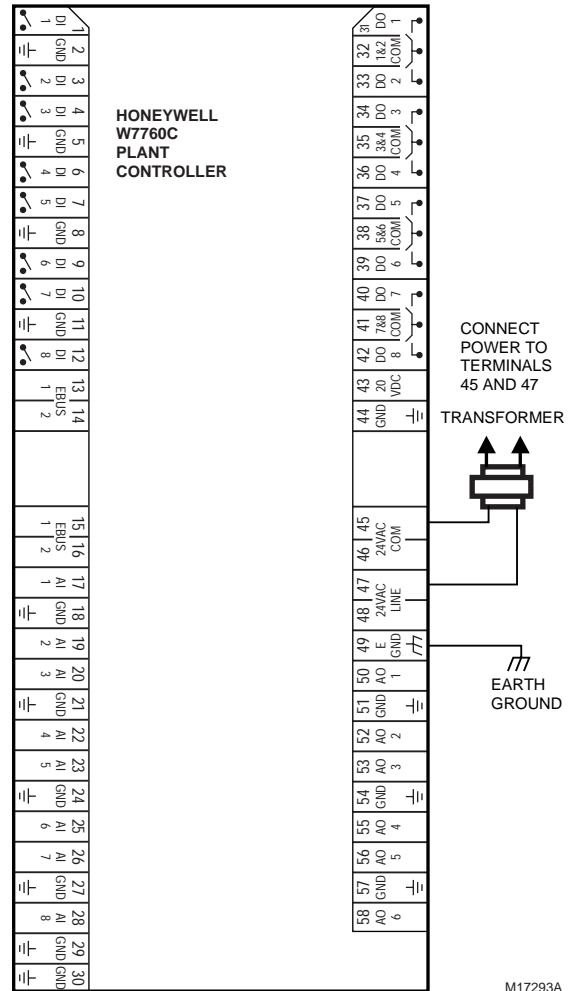
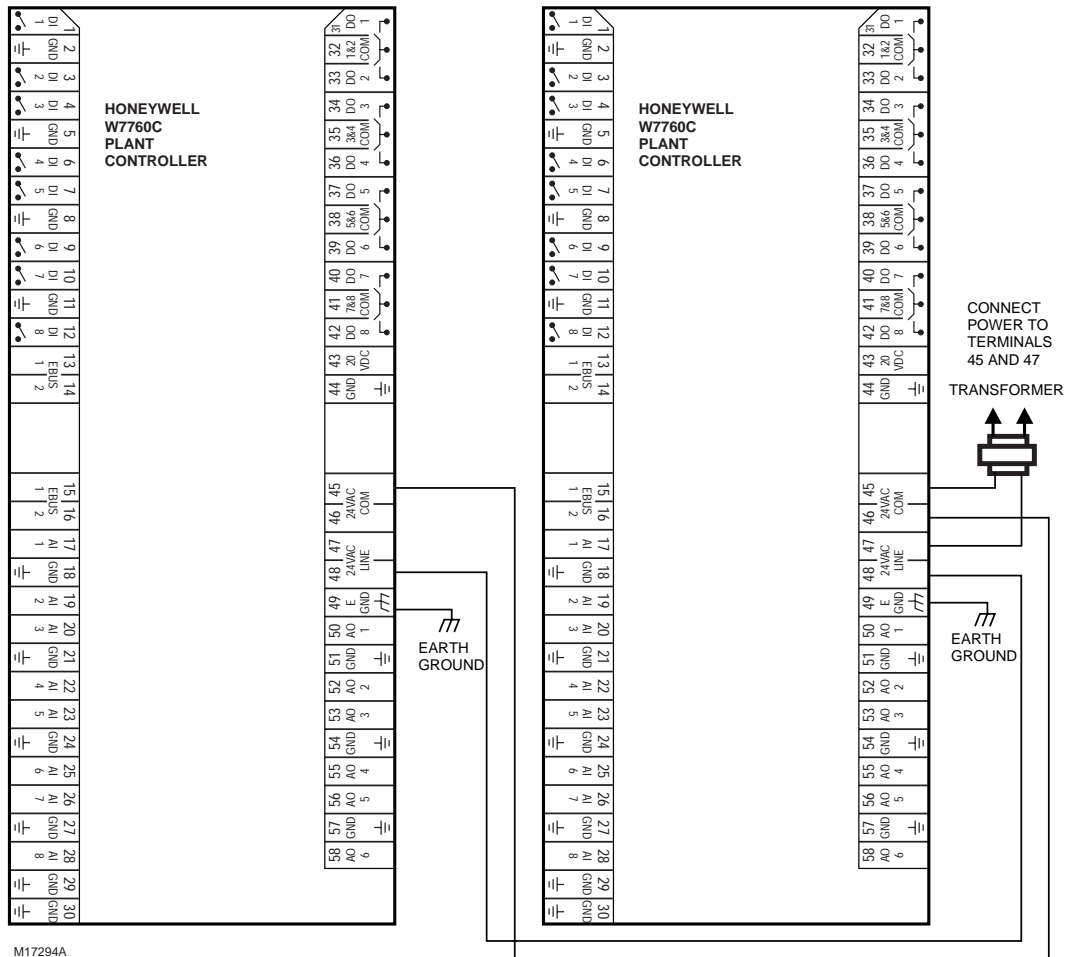

Fig. 42. Power wiring details for one W7760C per transformer.
Fig. 43. Power wiring details for two W7760Cs per transformer.
Each W7760C requires 24 Vac power from an energy-limited Class II Power Source. To conform to Class II restrictions (U.S. only), transformers must not be larger than 100 VA. A single transformer can power more than one W7760C Controller. Fig. 42 shows power wiring details for a single device and Fig. 43 shows multiple devices using one transformer.
- For multiple controllers operating from a single transformer, the same side of the transformer secondary must be connected to the same power input terminal in each device. The earth ground terminal (W7760C Terminal 49) must be connected to a verified earth ground for each controller in the group. See Fig. 42 and 43. Controller configurations are not necessarily limited to two devices, but the total power draw including accessories cannot exceed 100 VA when powered by the same transformer (U.S. only).
- Keep the earth ground connection (W7760C Terminal 49) wire run as short as possible. Refer to Fig. 42 and 43.
- Do *not* connect earth ground to the W7760C digital or analog ground terminals (2, 5, 8, 11, 18, 21, 24, 27, 29, 30, 44, 51, 54 and 57). Refer to Fig. 42 and 43.